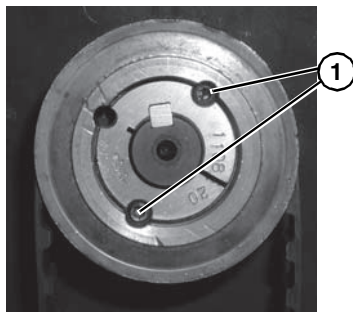
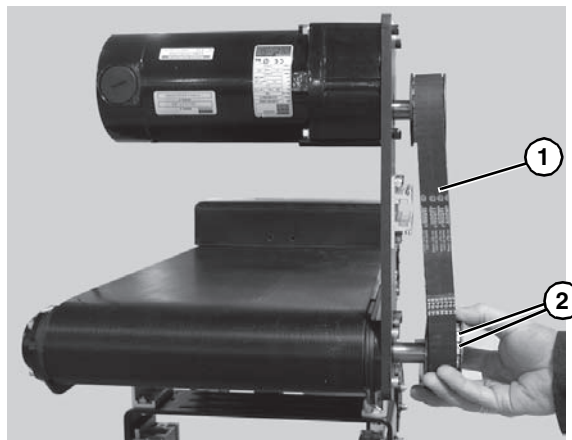

Figure 8
Figure 12
7. Tighten driven pulley taper-lock screws (Figure 8, item 1).
3. Remove timing belt (**Figure 12, item 1**).
*If timing belt does not slide over pulley flange, loosen driven pulley taper-lock screws (**Figure 8, item 1**) & (**Figure 12, item 2**) and remove pulley with belt (**Figure 12, item 1**). For re-installation, see steps 5 through 7 on page 9.*